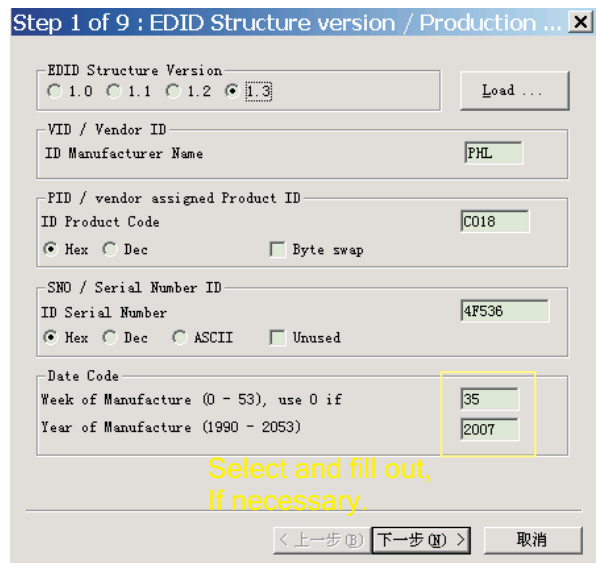

Fig. 31
- Click  (new function) icon from the tool bar, bring up Step 1 of 9 as shown in Fig. 31. EDID46 DDC application provides the function selection and text change (select & fill out) from Step 1 to Step 9.